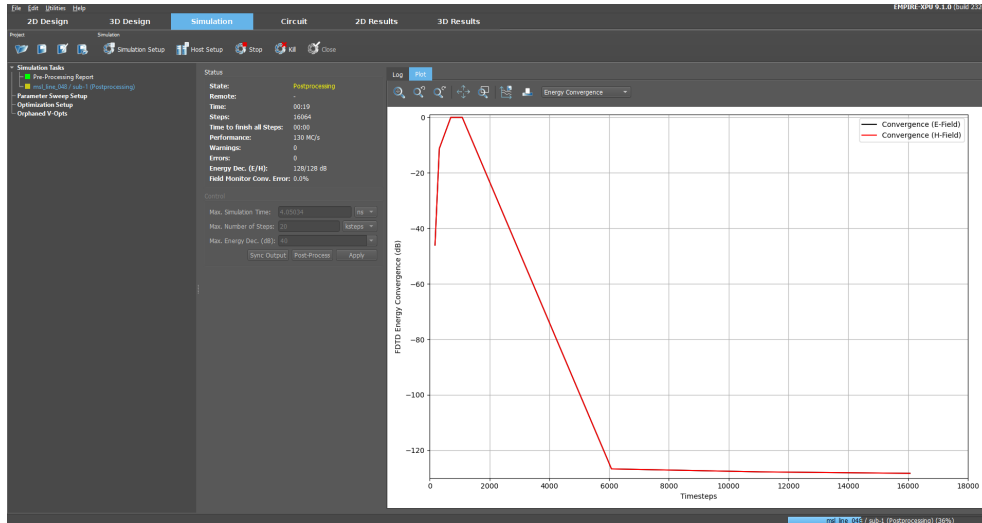

Figure 3.3.: EMPIRE XPU™ Standard Template simulation convergence
- Check: If the **Simulation** Tab shows the energy convergence plot over timesteps at the end, see Figure 3.3, the compiler and simulation kernel are working